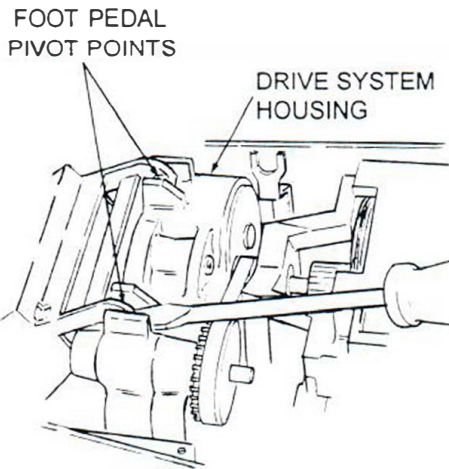

Figure 14. Foot Pedal Removal
- A. See Figure 14. Using a thin flat bladed screwdriver, carefully pry the pivot points of the power switch foot pedal off the pivot pins formed in the drive system housing.
- 1. *See Figure 14.* Apply a thin layer of T159S grease to both tabs at top of housing.